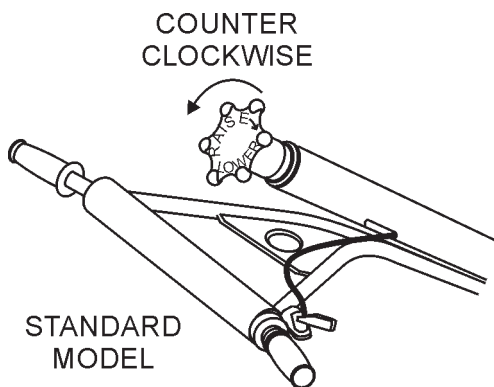

Figure 9. "No Pitch" Position
1. Expose the pitch cable to maximum by adjusting the handle pitch to the "no pitch" position. On the standard model turn the pitch control counter-clockwise, (Figure 9).